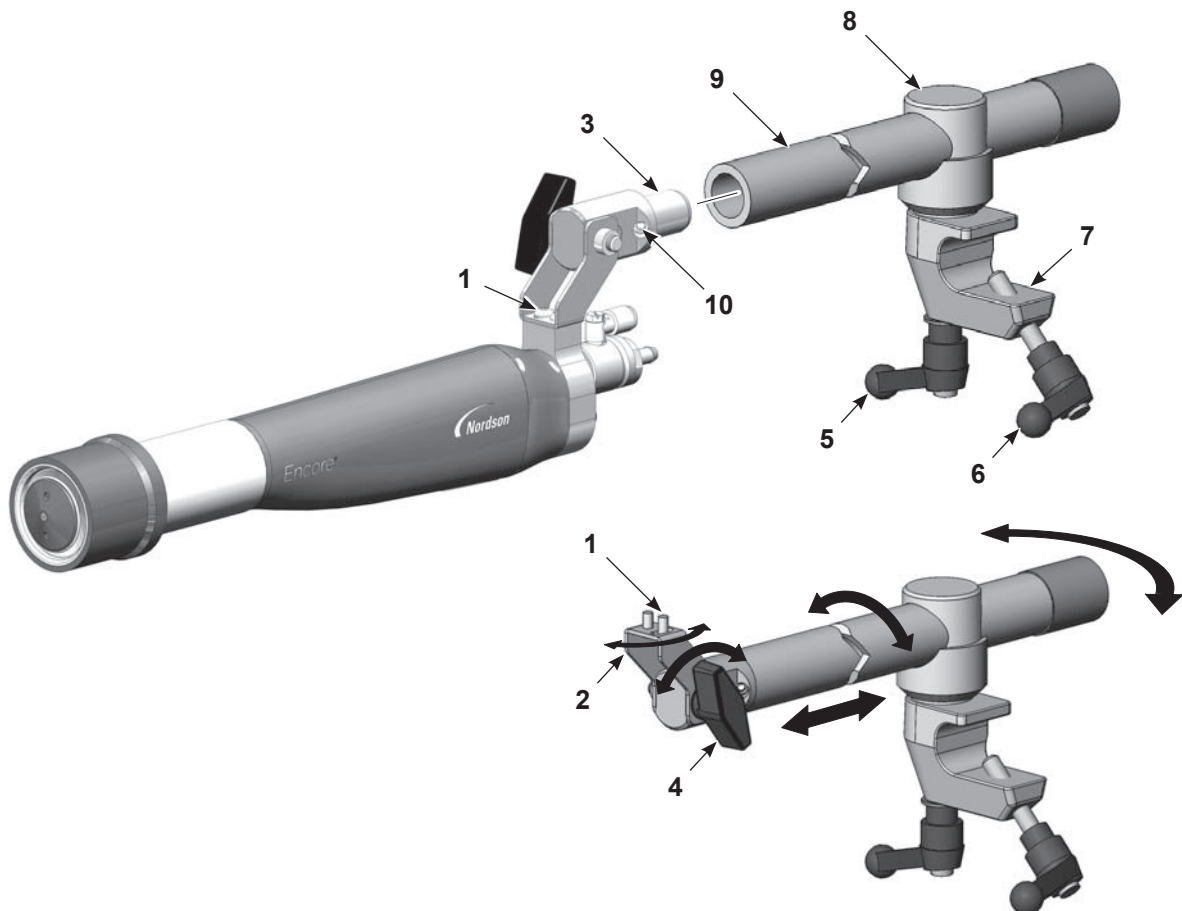
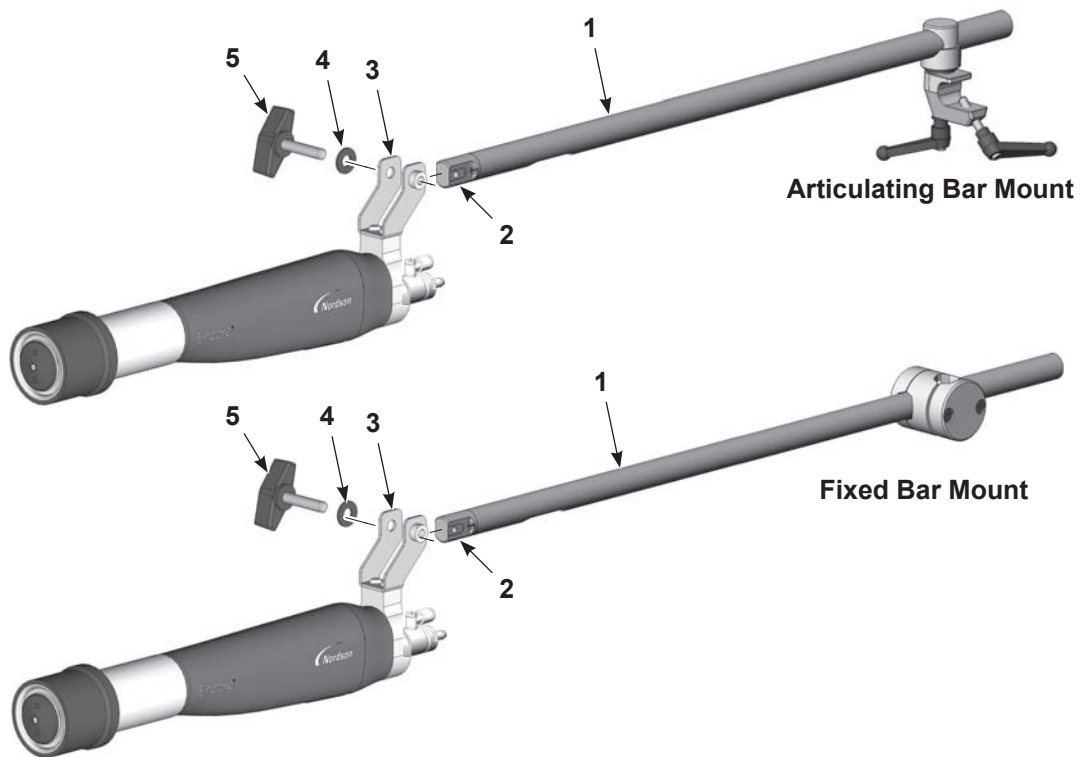
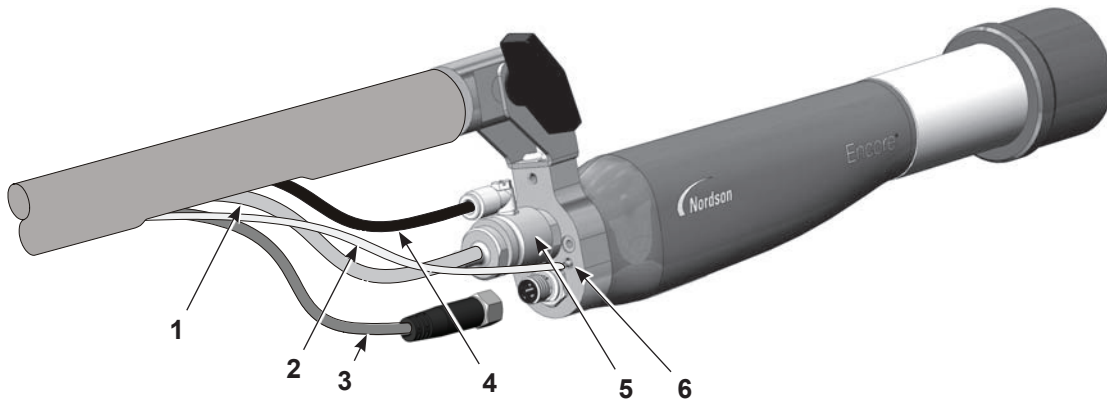

Figure 3-1 Standard Articulated Bar-Mount Spray Gun Mounting
Figure 3-2 Optional Spray Gun Bar Mount Kits
Figure 3-3 Spray Gun Connections – Conical Nozzle Shown
- See Figure 3-1. Install the tube adapter (3) into the end of the adjusting rod (9) and secure it by tightening the set screw (10) with a 4-mm hex key.
- To move the spray gun tip from side to side, loosen the right button screw (1).
- To tilt the spray gun tip up or down, loosen the tilt knob (4).
- To rotate the adjusting rod or slide the adjusting rod forward or back, loosen the locking handle (5).
- Position the clamp (7) on a 1 inch mounting bar and tighten the clamp handle (6).
- Bundle the powder hose, 4-mm clear electrode air-wash tubing, and spray gun cable together and secure them to the adjusting rod with Nordson Velcro straps. Connect them to the spray gun as shown in Figure 3-3.
See Figure 3-2. The optional bar mount kits have large inner diameter adjusting rods (1), through which the powder hose, air tubing, and spray gun cable can be routed. The tube adapter (2) shipped with the spray gun cannot be used with these kits. It must be exchanged for the tube adapter provided with the kits.
1. Unscrew and remove the knob and washer (5, 4) from the spray gun mounting bracket (3).
3. Slide the end of the optional tube adapter (2) into the spray gun mounting bracket and align the hole in the end of the tube adapter with the holes in the spray gun mounting bracket.
5. See Figure 3-3. Pull (in the following order) the spray gun cable, 4-mm clear electrode air-wash tubing, and powder hose through the end mounting tube and out the cutout. Connect them to the spray gun as shown in Figure 3-3.
See Figure 3-3.